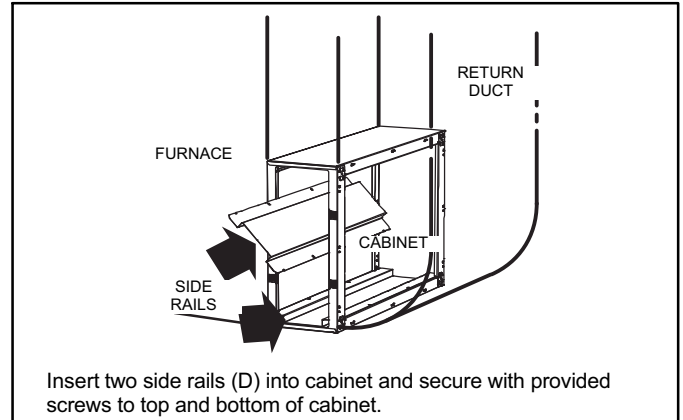

Figure 13. Install Side Rails
NOTE: Side rails (D) are attached to the cabinet after the cabinet is installed on the Furnace/Air Handler (see figure 13).
7. Insert side rails (D) into the cabinet and use the provided screws to secure them to the cabinet at both the top and bottom (see figure 13).